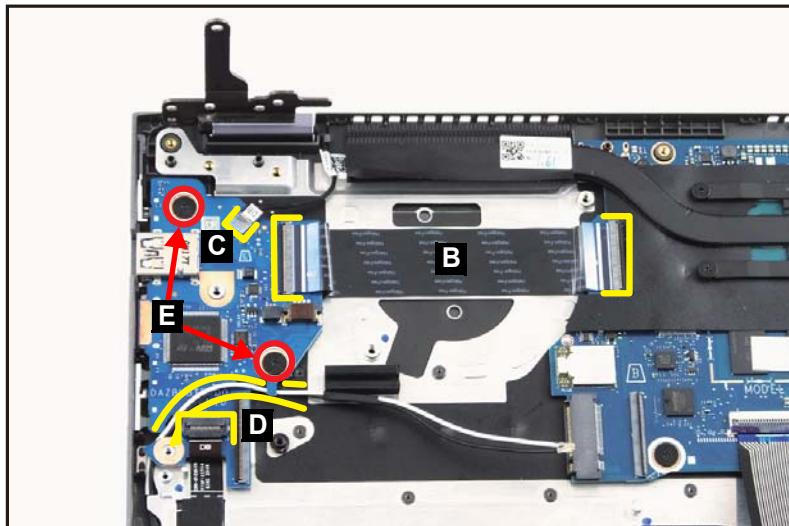

Figure 1-26. USB Board Removal
4. Disconnect the 40-pin USB board FFC (B) from the mainboard and USB board connectors (Figure 1-26).
5. Disconnect the G-sensor cable from the USB board connector (C) (Figure 1-26).
6. Disconnect the fingerprint cable from the USB board connector (D). Then unroute the WLAN antennas cables from the cable guides (Figure 1-26).
7. Remove two (2) screws (E) securing the USB board in place (Figure 1-26).